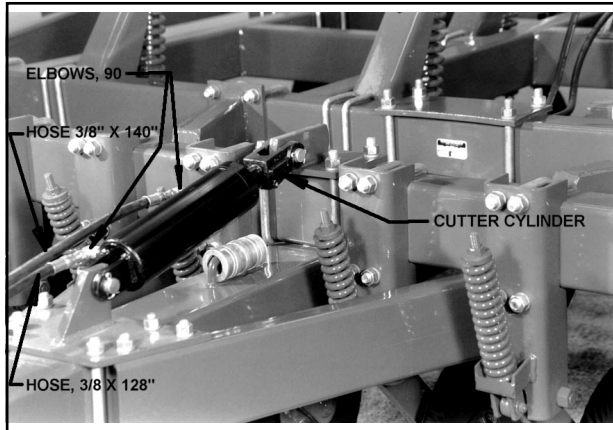

Figure 3-28 - Cutter Frame Lift Cylinder
- Mount base end of 3" x 8" disc cutter frame cylinder to cylinder anchor on hitch (**See Figure 3-28**).